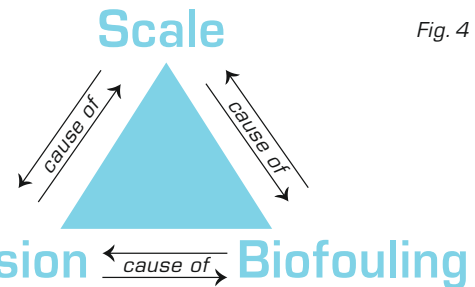

Fig. 4
**Scaling** including **corrosion** and **biofouling** are all related to each other. See figure 4.